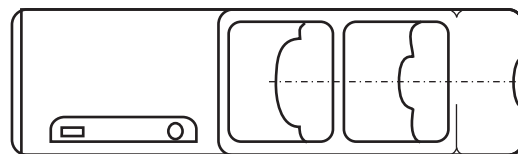

Fig. 7 – Muzzle brake
11. The muzzle brake (Fig. 7) is used to reduce the recoil energy of the weapon. It is located at the barrel muzzle attached to it by its threaded part and secured in horizontal position in relation to the rifle by means of its securing pin.